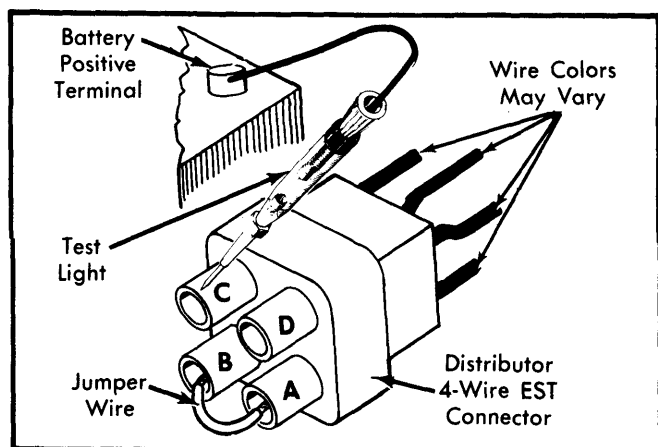

Fig. 11 Test Light Hook-Up for Checking EST Emission System
2) Connect a jumper wire from terminal "A" to "B" on distributor side of EST connector. Start engine, ground test terminal and connect test light from battery positive terminal to terminal "C" of EST connector. See Fig. 11.